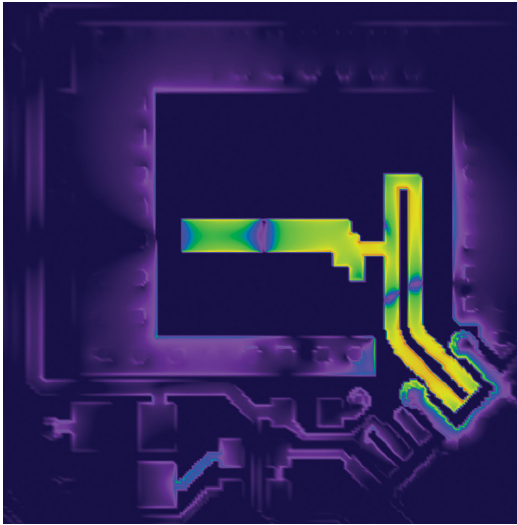

Figure 2: Grounding structures are not equipotential surfaces
- Current distribution on ground planes. At 25 and 77 GHz, grounding structures are no longer equipotential surfaces. As seen in Figure 2, the ground plane has strong currents – 10dB below the maximum – on its edges that need to be considered during the design.
- Effects of secondary sources like the local oscillator (LO) line. Secondary sources can couple onto other conductors and even generate unintended radiation. Both of these problems can be identified and quantified through simulation.